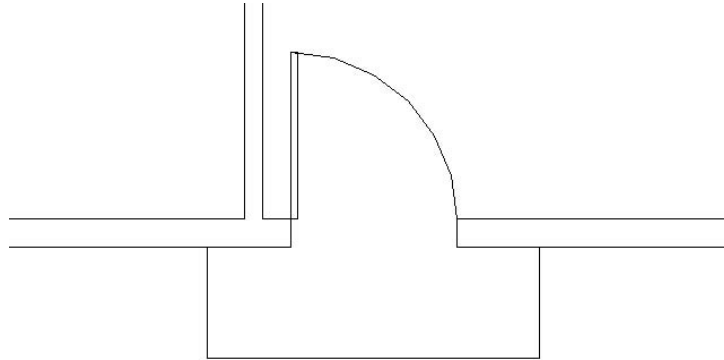

FIGURE 5.6: The completed front step
9. Erase the original line, and then draw a line from the lower endpoints of these two new lines to represent the front edge of the step. Use the Endpoint Osnap for each point picked. Press \downarrow to end the Line command. Your drawing should look like Figure 5.6.